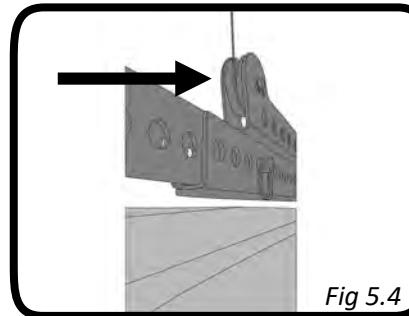

Fig 5.4
4. Pass each cable through the appropriate pulley frame. One cable should pass through one frame under both pulleys. Hook the cable eyelet with the carabiner to the track. (Fig 5.4)